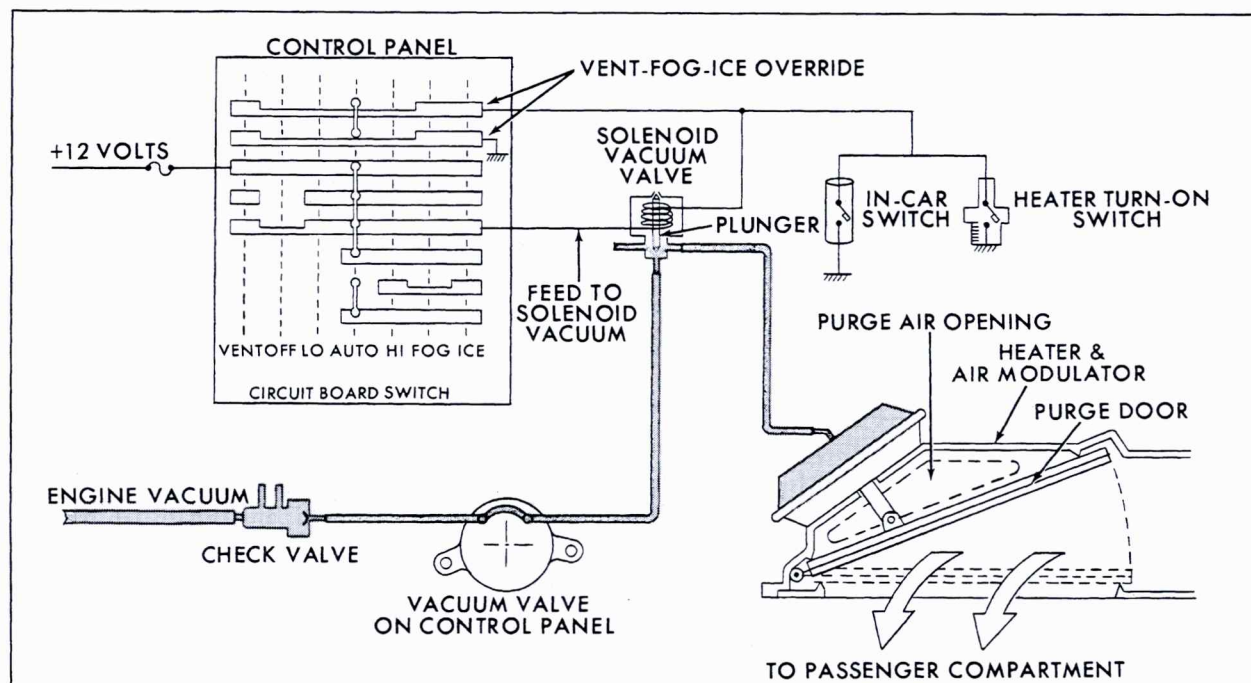

Fig. 1-18 System Turn-On Circuit
b. System Turn-On Circuit (Fig. 1-18)
For the purpose of this discussion it will be assumed that the blower speed control system is operating satisfactorily. To obtain system turn-on it is necessary to supply vacuum to the purge door actuator and move the purge door to a position to direct air into the passenger compartment, Fig. 1-18. Vacuum supply for the purge door actuator is routed from the engine through a check valve, which is provided to prevent loss of vacuum supply during periods of low engine vacuum, to a through passage in the control vacuum valve. Routing through the control vacuum valve was done for design convenience and does not affect system turn-on. Supply vacuum is then routed to the solenoid operated vacuum valve which is the master vacuum control unit for system turn-on. Output vacuum from the solenoid vacuum valve is directed to the purge door actuator.